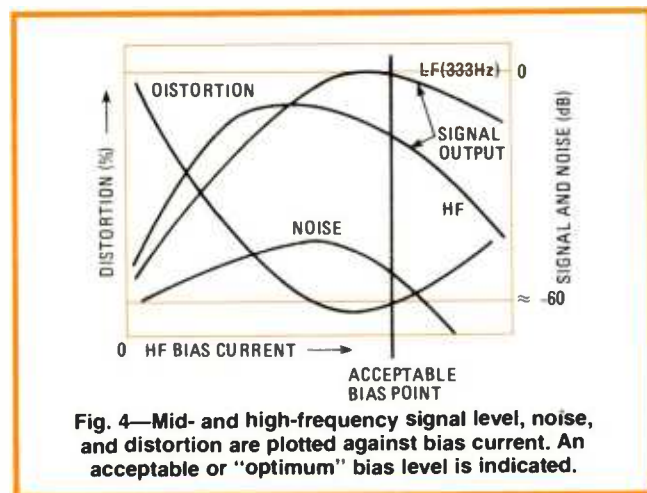

Fig. 4—Mid- and high-frequency signal level, noise, and distortion are plotted against bias current. An acceptable or "optimum" bias level is indicated.
Figure 4 shows mid- and high-frequency response, noise and distortion plotted against the level of supersonic bias. The coordinates will vary from tape to tape, but the shape of the curves remains substantially the same.
A general block diagram of each of these microprocessors is shown in Fig. 4. Note that only the main registers are shown. These will be explained next.
All microprocessors have three basic registers: the program counter (PC); the instruction register (IR); and the accumulator (ACC). Figure 4 shows the register structure for the 6800 and 6502. Let's look at each.
Fig. 4—Although there are differences in the internal architecture of the 6800 and 6502, both use the program counter to point to the next instruction in sequence.